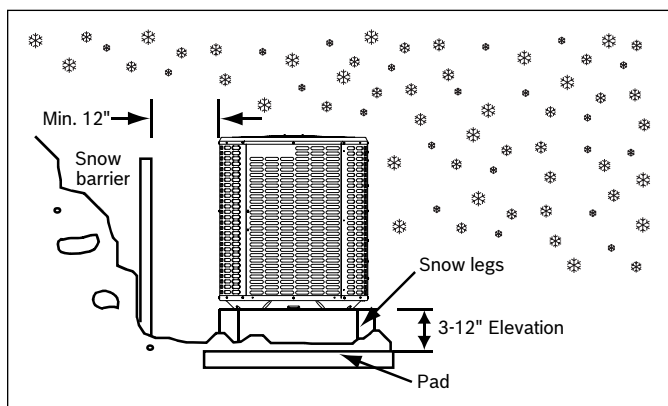

Figure 6
- Units should be elevated 3-12 inches above the pad or rooftop, depending on local weather. This additional height will allow drainage of snow and ice melted during defrost cycle prior to its refreezing. Ensure that drain holes in unit base pan are not obstructed, which could prevent the drainage of defrost water (Figure 6).